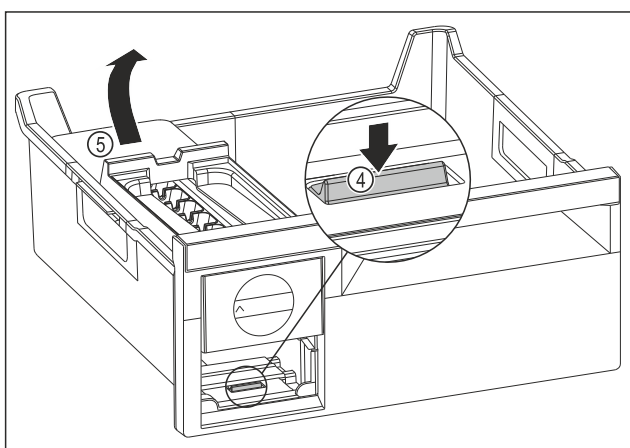

Fig. 117
- ▶ Removing the EasyTwist-Ice body: Use your finger to push the tab Fig. 117 (4) down and use your other hand to lift the EasyTwist-Ice body Fig. 117 (5) from behind at the same time.